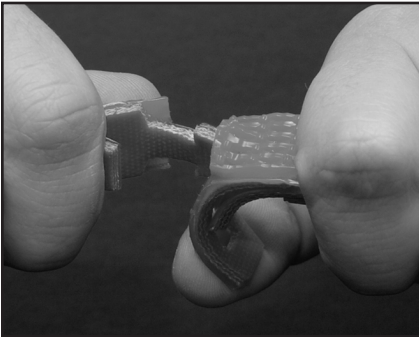

Fig. 4
- Place the tab through two links at once. Flexing the link will enlarge the slot, making this easier. See Fig. 4.